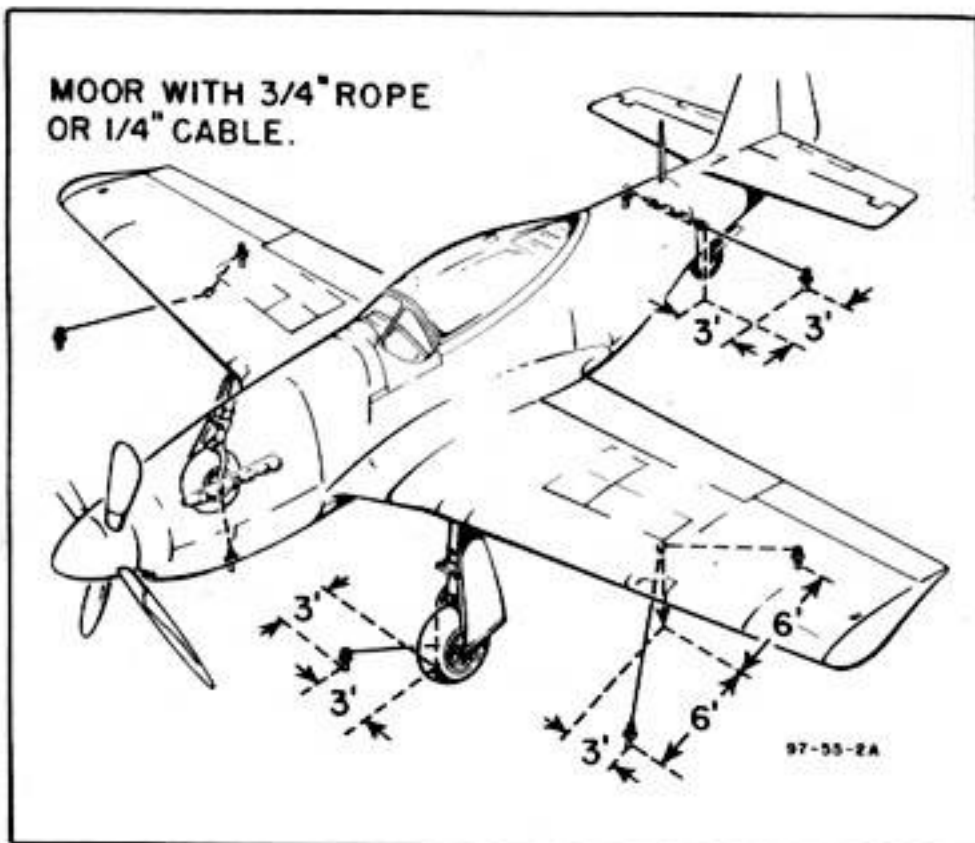

Figure 62—Mooring the Airplane
(a) WING.—A mooring ring is provided on the lower surface of each wing panel approximately in line with the outboard end of the wing flap. (See figure 62.) The rings retract flush into the wing surface when not in use. Pry at the inboard part of the rings to disengage them from the stowed position.
(b) MAIN LANDING GEAR.—A mooring ring is on the inboard end of each main landing gear axle. (See figure 62.)
(c) FUSELAGE.—The lift tube in the fuselage just aft of and below the insignia provides a means of mooring the tail of the airplane. (See figure 62.)
(c) Moor the airplane with 3/4-inch ropes or 1/4-inch cable. (See figure 62.) If mooring facilities are not available, use mooring kit as instructed in paragraph (3), following.